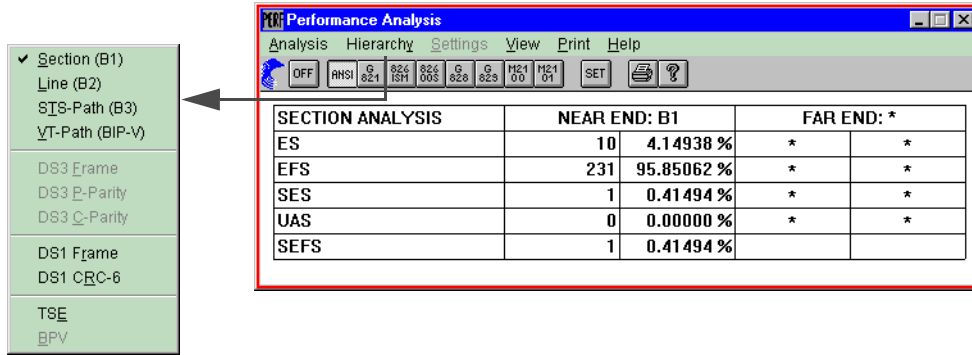

Fig. A-37 "Performance Analysis" window with open pull-down menu "Hierarchy"
2. Click on the "Hierarchy" menu (see Fig. A-37).